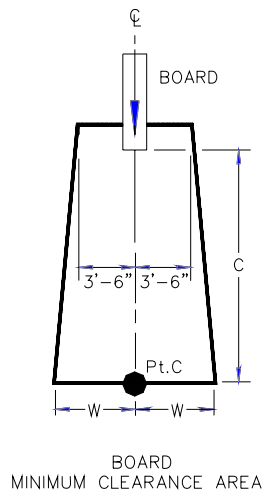

FIG. 3
- B. The minimum clearance area in front of a properly installed diving board on an inground swimming pool is a minimum distance of three feet six inches (3'-6") on either side of the board's centerline as shown in **FIG. 3**. Pt. C extends a minimum distance of "C" from the tip end of the board as shown in **FIG.3**. The width distance "W" on either side of Pt. C is given in **CHART 1** and shown in **FIG.3**.
See Article 5 contained in ANSI/NSPI-5 2003 STANDARD FOR RESIDENTIAL INGROUND SWIMMING POOLS and refer to FIGURE 3 and Table 1 for Minimum Water Envelope Dimensions AB, BC and Width at Point C.